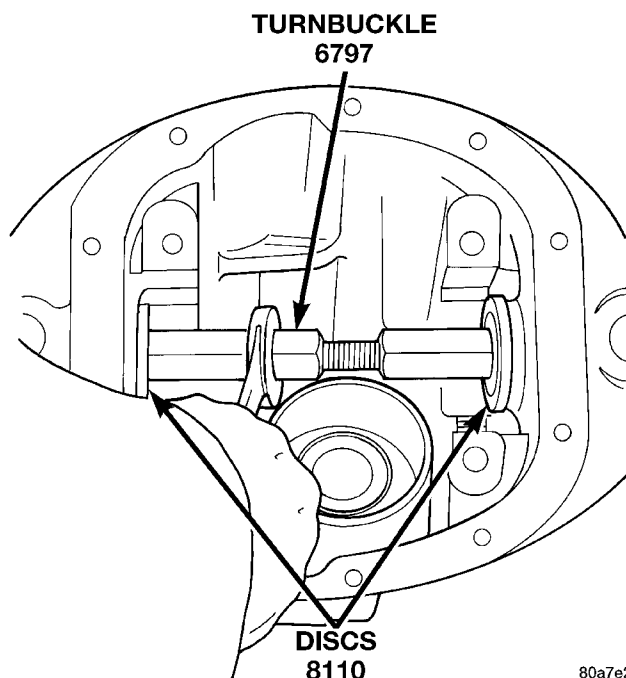

Fig. 39 Axle Seal Installation
- (1) Remove any sealer remaining from original seals.
- (2) Remove sealer from axle tube to housing junction, if necessary.
- (3) Install oil seals with Discs 8110 and Turnbuckle 6797 (Fig. 39). Tighten tool until disc bottoms in housing.
- (4) Install differential assembly.